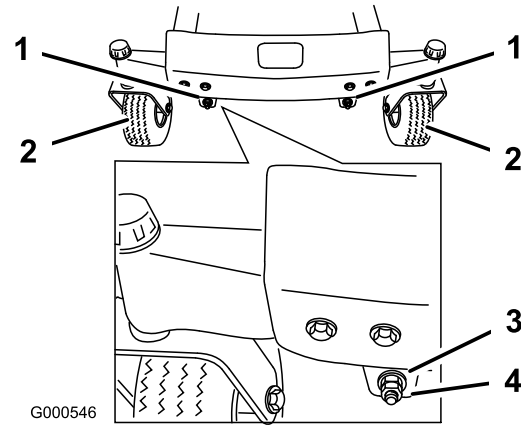

Figure 47
11. To adjust the front-to-rear blade slope, remove the locknuts and then rotate the adjustment nuts in the front of the mower (Figure 47).
13. After adjusting both adjustment nuts evenly, check the front-to-rear slope again. Continue adjusting the nuts until the front blade tip is 1/16-5/16 inch (1.6-7.9 mm) lower than the rear blade tip (Figure 47).
Note: After adjusting the adjustment nuts, make sure there is no slack in either support rod (Figure 48). Tighten either one to remove the slack (Figure 47).